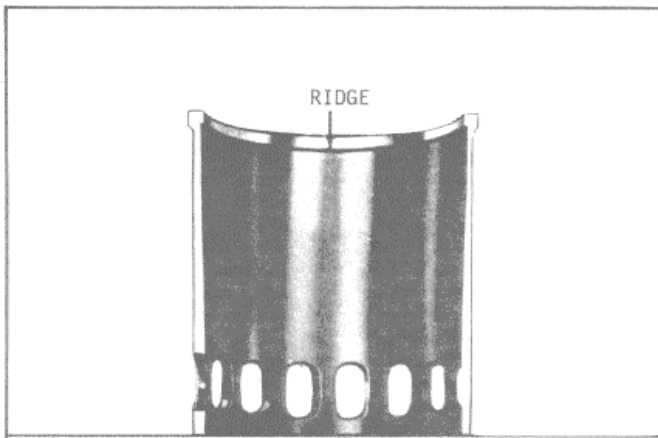

Fig. 6 Cylinder Liner Ridge Due to Wear
- (2) Remove the ridge (Fig.6) formed at the top by the piston ring travel. Otherwise, interference with the travel of the new compression rings may result in ring breakage.